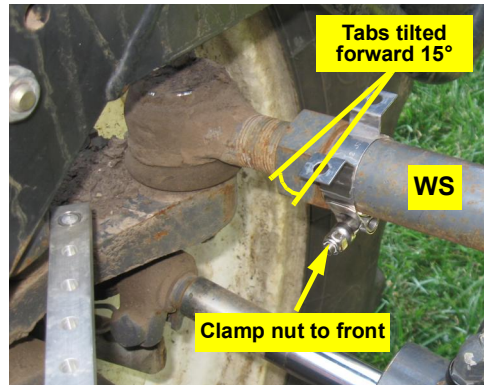

Figure 2d: Installed and tilted WAS clamp
d. Install WAS clamp **WS** on the tie rod. Place the clamp next to the tie rod ball joint locking nut, with its tightening nut toward the front of the machine and with its mounting tabs facing up. Tilt the tabs 15° toward the front of the machine (Figure 2d).